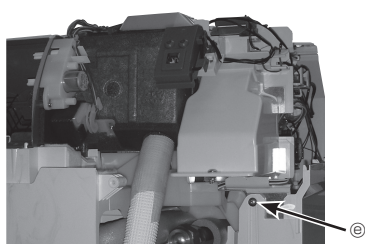

Fig. 6-7
- ⑨ Remove the screw of the electrical box. (Fig. 6-7)